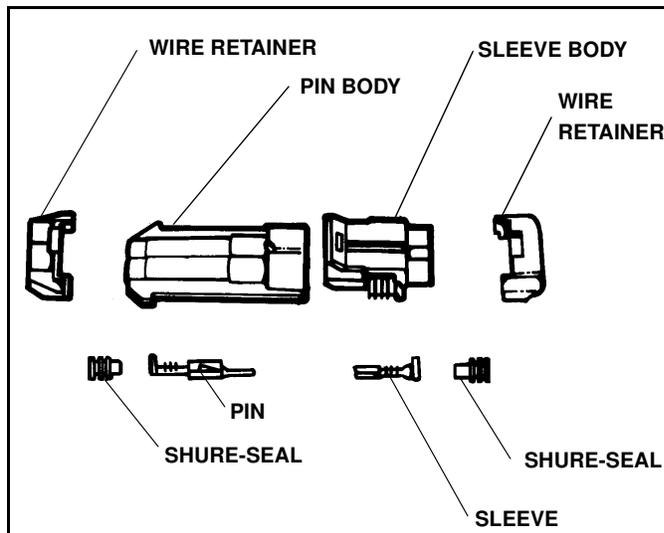

Figure 2-6
**IMPORTANT:** Identify wire number/color locations with connector terminal letters. (See Figure 2-6)